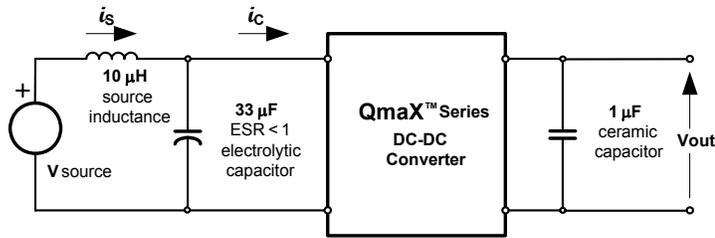

Fig. 1.8V.11: Test Setup for measuring input reflected ripple currents,  $i_c$  and  $i_s$ .
**Fig. 1.8V.1:** Available load current vs. ambient air temperature and airflow rates for QM48T45018 converter with B height pins mounted vertically with  $V_{in} = 48\text{ V}$ , air flowing from pin 3 to pin 1, and MOSFET temperature  $\leq 120\text{ }^\circ\text{C}$ .
**Fig. 1.8V.2:** Available load current vs. ambient air temperature and airflow rates for QM48T45018 converter with B height pins mounted horizontally with  $V_{in} = 48\text{ V}$ , air flowing from pin 3 to pin 1, and MOSFET temperature  $\leq 120\text{ }^\circ\text{C}$ .
**Fig. 1.8V.3:** Efficiency vs. load current and input voltage for converter mounted vertically with air flowing from pin 3 to pin 1 at a rate of 300 LFM (1.5 m/s) and  $T_a = 25\text{ }^\circ\text{C}$ .
**Fig. 1.8V.4:** Efficiency vs. load current and ambient temperature for converter mounted vertically with  $V_{in} = 48\text{ V}$  and air flowing from pin 3 to pin 1 at a rate of 200 LFM (1.0 m/s).
**Fig. 1.8V.5:** Power dissipation vs. load current and input voltage for converter mounted vertically with air flowing from pin 3 to pin 1 at a rate of 300 LFM (1.5 m/s) and  $T_a = 25\text{ }^\circ\text{C}$ .
**Fig. 1.8V.6:** Power dissipation vs. load current and ambient temperature for converter mounted vertically with  $V_{in} = 48\text{ V}$  and air flowing from pin 3 to pin 1 at a rate of 200 LFM (1.0 m/s).
**Fig. 1.8V.7:** Turn-on transient at full rated load current (resistive) with no output capacitor at  $V_{in} = 48\text{ V}$ , triggered via ON/OFF pin. Top trace: ON/OFF signal (5 V/div.). Bottom trace: output voltage (1 V/div.) Time scale: 2 ms/div.
**Fig. 1.8V.8:** Turn-on transient at full rated load current (resistive) plus 40,000  $\mu\text{F}$  at  $V_{in} = 48\text{ V}$ , triggered via ON/OFF pin. Top trace: ON/OFF signal (5 V/div.). Bottom trace: output voltage (1 V/div.) Time scale: 2 ms/div.
**Fig. 1.8V.9:** Output voltage response to load current step-change (22.5 A – 33.75 A – 22.5 A) at  $V_{in} = 48\text{ V}$ . Top trace: output voltage (100 mV/div.). Bottom trace: load current (10 A/div.). Current slew rate: 1 A/ $\mu\text{s}$ .  $C_o = 470\text{ }\mu\text{F}$  tantalum + 1  $\mu\text{F}$  ceramic. Time scale: 0.2 ms/div.
**Fig. 1.8V.10:** Output voltage ripple (20 mV/div.) at full rated load current into a resistive load with  $C_o = 10\text{ }\mu\text{F}$  tantalum + 1  $\mu\text{F}$  ceramic and  $V_{in} = 48\text{ V}$ . Time scale: 1  $\mu\text{s}$ /div.
Fig. 1.8V.12: Input reflected ripple current,  $i_s$  (10 mA/div), measured through 10  $\mu$ H at the source, at full rated load current and  $V_{in} = 48$  V. Refer to Fig. 1.8V.11 for test setup. Time scale: 1  $\mu$ s/div.
Fig. 1.8V.13: Input reflected ripple current,  $i_c$  (100 mA/div), measured at input terminals at full rated load current and  $V_{in} = 48$  V. Refer to Fig. 1.8V.11 for test setup. Time scale: 1  $\mu$ s/div.
Fig. 1.8V.14: Output voltage vs. load current showing current limit point and converter shutdown point. Input voltage has almost no effect on current limit characteristic.
Fig. 1.8V.15: Load current (top trace, 20 A/div, 20 ms/div) into a 10 m $\Omega$  short circuit during restart, at  $V_{in} = 48$  V. Bottom trace (20 A/div, 1 ms/div) is an expansion of the on-time portion of the top trace.